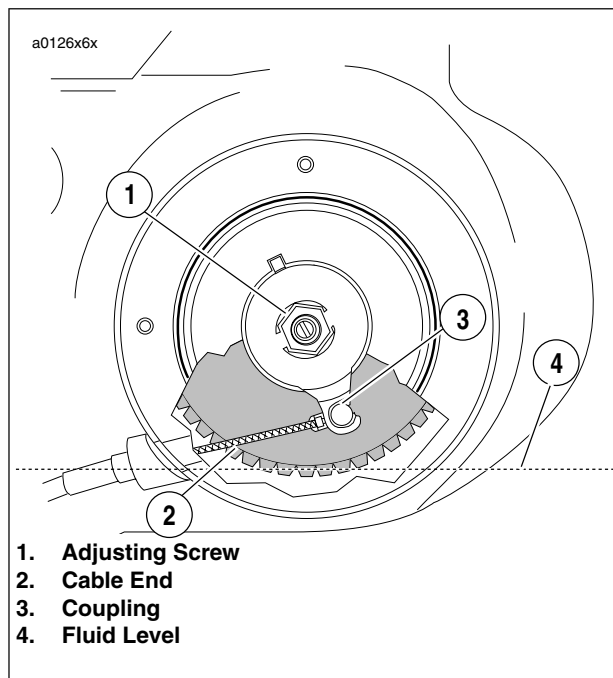

Figure 6-12. Fluid Level
- See Figure 6-12. Add SPORT-TRANS FLUID (Part No. 98854-96 quart size; Part No. 98855-96 gallon size) as required until fluid level is even with bottom of clutch diaphragm spring.